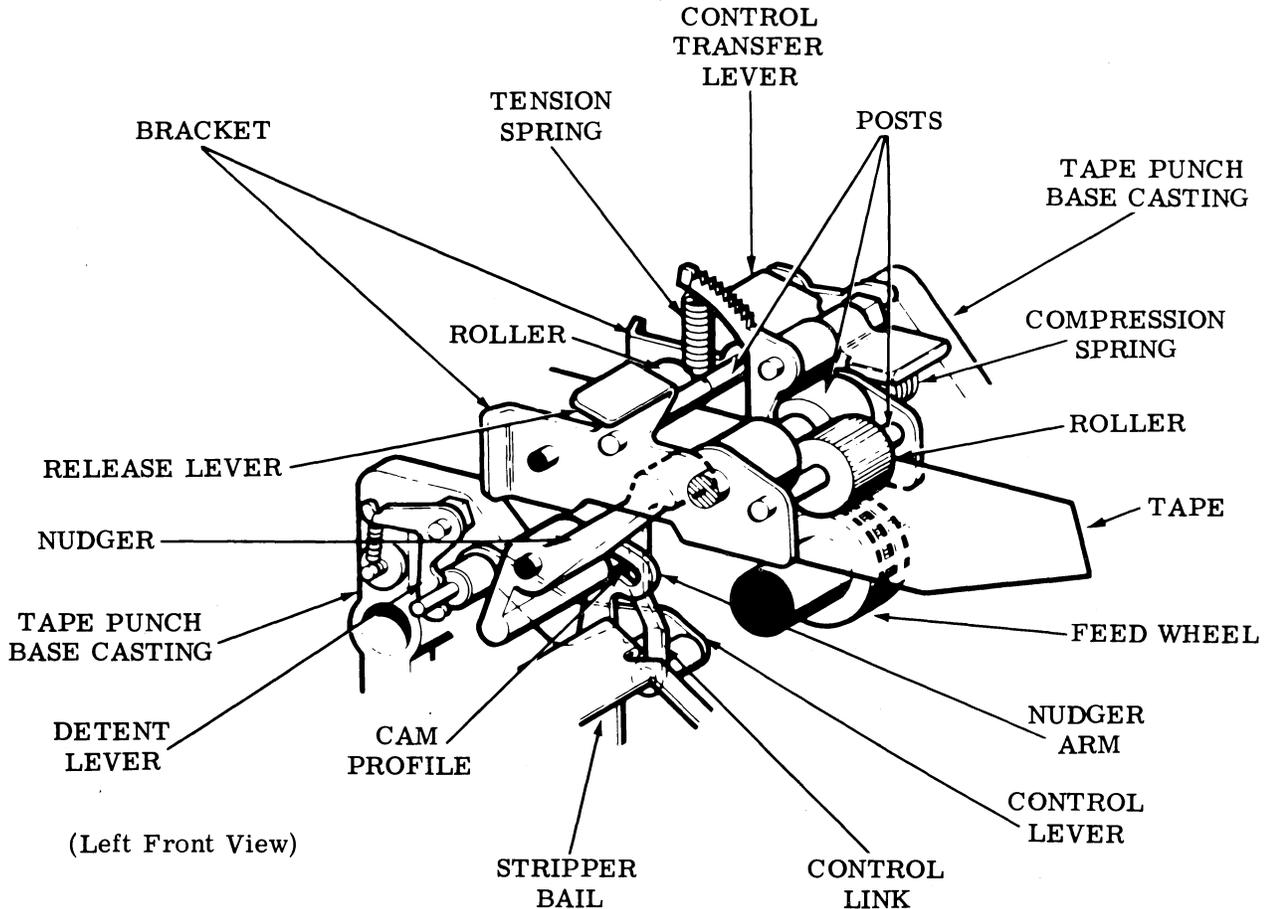
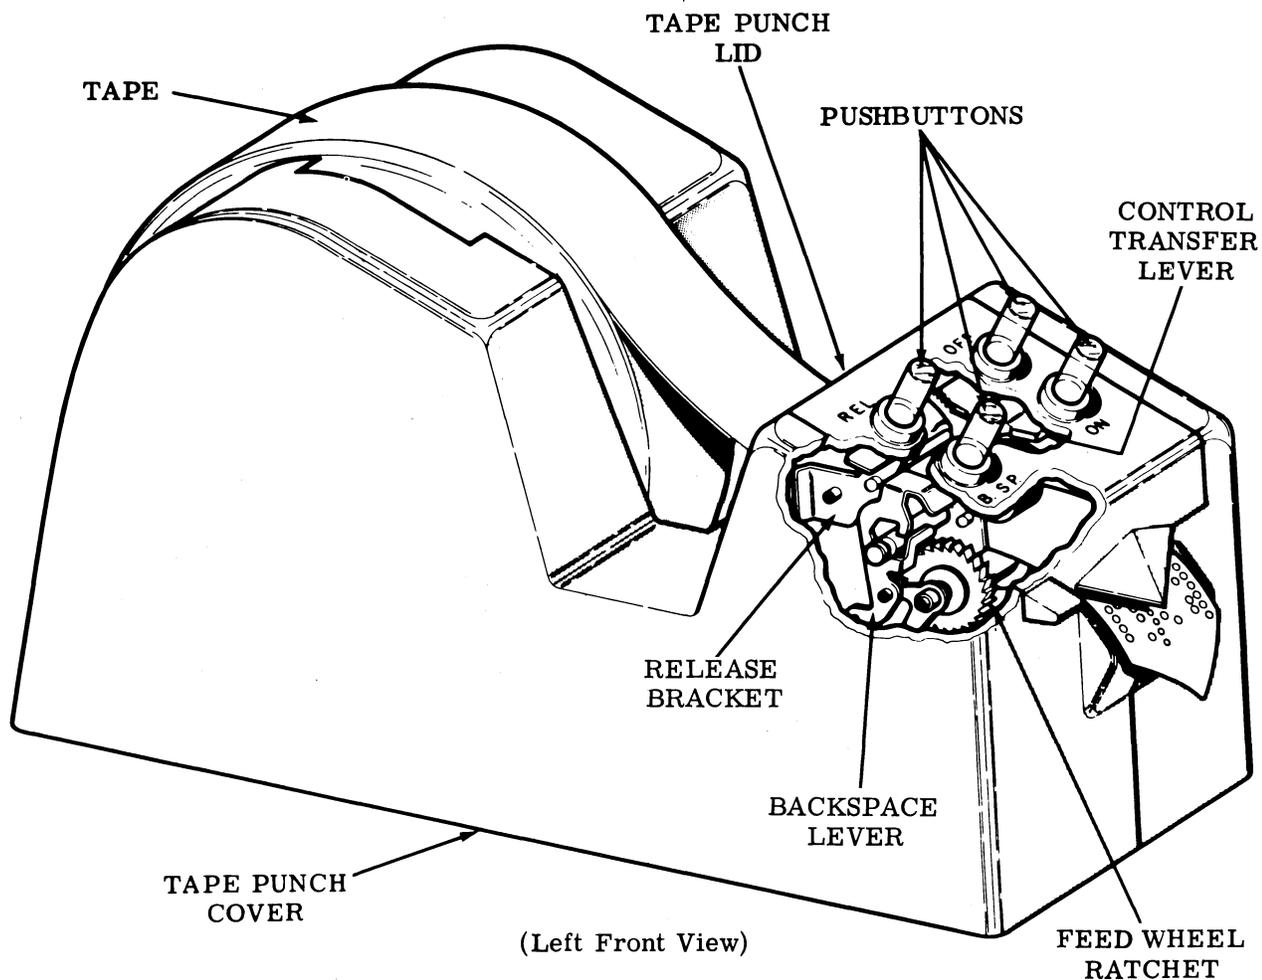

Figure 6 - Tape Guide Assembly (Tape Feed Mechanism)
Figure 8 - Control Mechanism
4.16 The tape guide mechanism (Figure 6), consists of a bracket, two rollers, three posts, a sleeve, and a compression spring held together by retainers. A tension spring biases the tape guide mechanism in a clockwise direction. The knurled roller settles against the knurled feed wheel with a predetermined force. It is the combination of force and the knurled wheels that provides adequate tape spacing. The tape guide assembly is shaped in the form of a funnel to provide easy tape threading. A pushbutton (Figure 8), located in the cover lid, when manually pushed down
- 5.06 Release – When the REL. pushbutton on the cover is depressed, the entire backspace mechanism (Figure 6) pivots counterclockwise raising the roller away from the feed wheel. The tape can thus be pulled out freely.